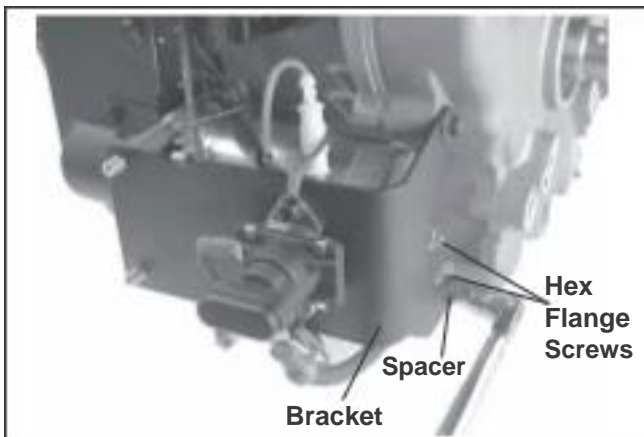

Figure 11-48. Installing Fuel Tank/Solenoid Bracket (some models).
3. Install fuel tank/solenoid bracket (if equipped) onto the mounting studs. Secure with the two hex flange screws through the closure plate, with the single spacer behind the bracket on the lower screw. Torque the screws to **24.4 N·m (216 in. lb.)**. See Figure 11-48. If the bracket is being installed with the closure plate, refer to Figure 11-20 for proper torque sequence.